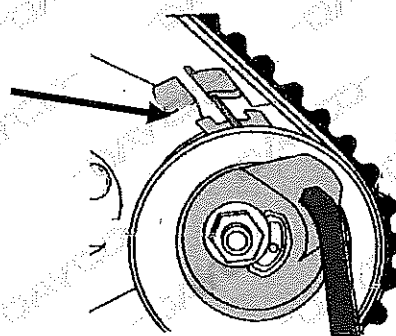

Fig. 2
- With a dedicated tool rotate the tensioner counterclockwise until the hole is central to the flexible element (Fig. 2).